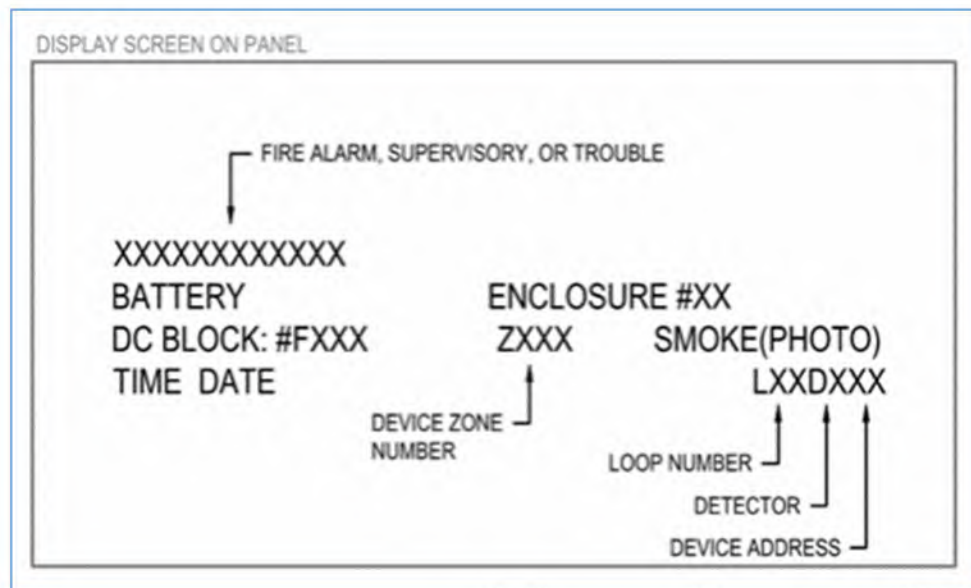

Figure 4.1.6 - Address naming scheme example (Notifier 3030 panel.)
6. Information on which enclosure(s) is/are in alarm may be found on either Fire Command Center (FCC) located just within the site's two entrances to the left as you enter. See Figure 4.1.6 in section 4.1.6 for the FCC display screen.
1. Internal smoke or external fire detection, whose status is visible at the FCC. The FCC display screen example is shown in Figure 4.1.6.